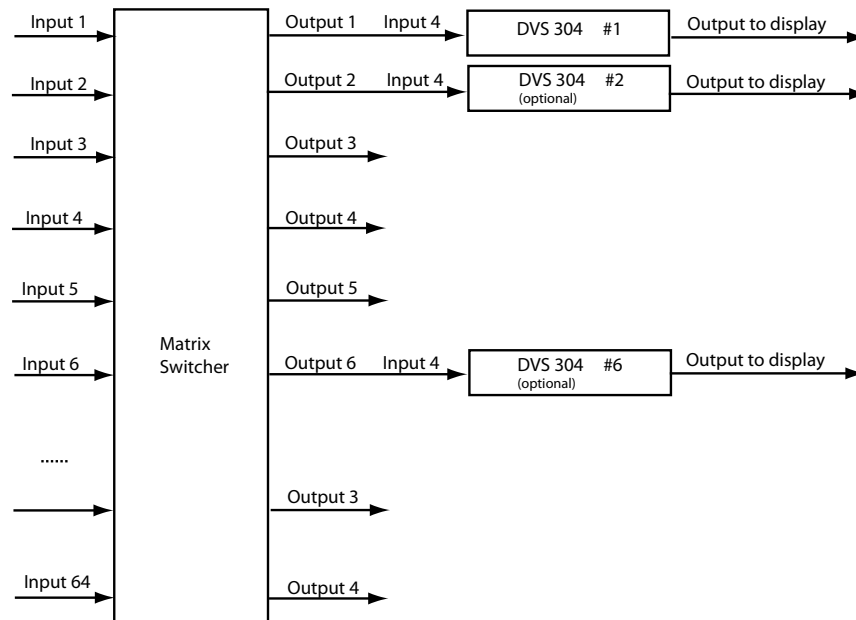

Figure 2-24 — Multiple DVS 304's connected to a Matrix switcher
2. On the matrix switcher, tie input 1 to the output connected to input 4 on the DVS (see figure 2-24). Refer to the matrix switchers users manual for method.